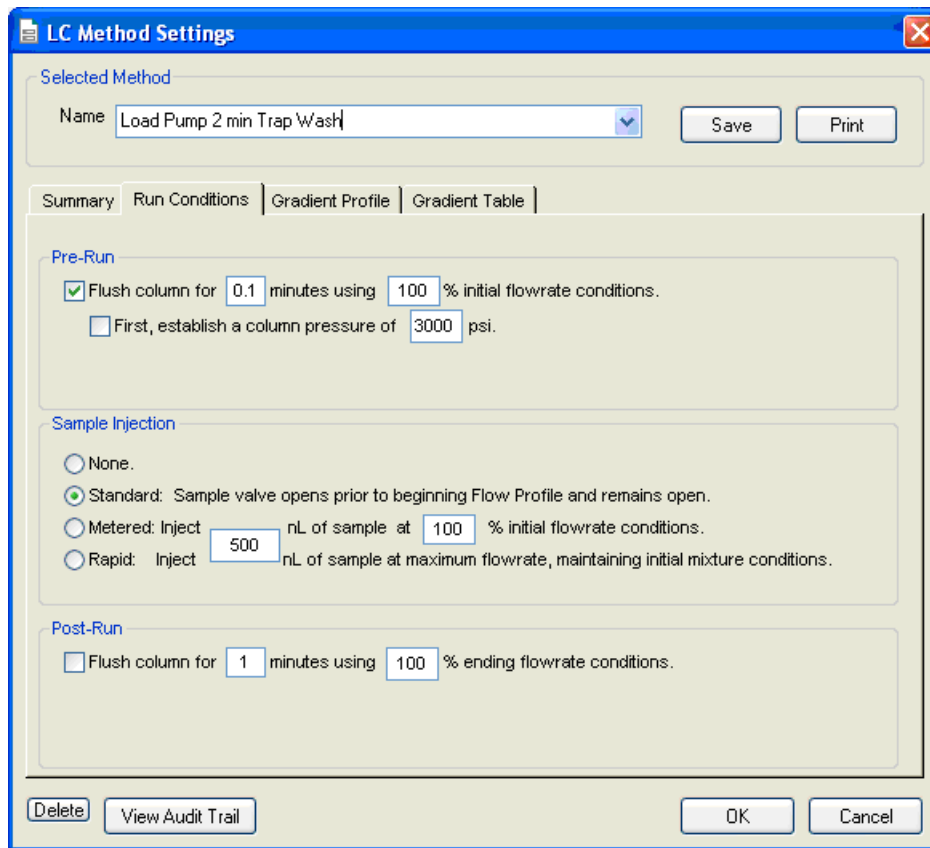

Figure 2-4 LC Method Settings dialog—Run Conditions tab
- On the **Run Conditions** tab, specify conditions as shown in Figure 2-4.